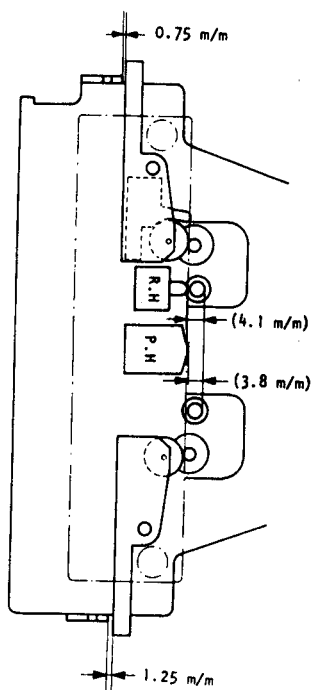

Fig. 6.9
- (1) Check to insure whether any of the heads is not in contact with the cassette housing.
- (2) Check to insure whether the pressure roller is located in parallel with the capstan shaft (Also check to insure whether the heads are free from dust or dirt, and whether the pressure roller arm is free from bending).
- (3) Check to insure whether the surface of the pressure roller is globular not straight. Other than the above that is straight type, concaved, or oiled surface shall be subject to replacement.
- (4) The pressure of the pressure roller shall be 400g±50g.
- (5) Adjustment of Pressure Roller Timing.
- a. Refer to Fig. 6.9.